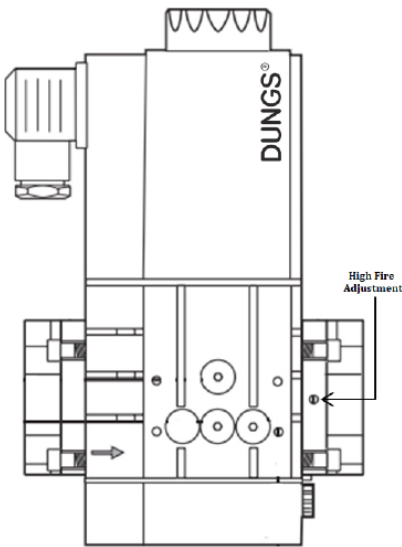

Figure 25: Air-to-Fuel Adjustment
- d. If high fire O_2 is too high (CO_2 is too low), decrease O_2 (increase CO_2) by turning the adjustment screw towards the "Plus (+)" sign in 1/4 turn increments and checking the O_2 (or CO_2) after each adjustment. Refer to Figure 25 for location of throttle screw. Verify CO air free is less than 200 ppm.